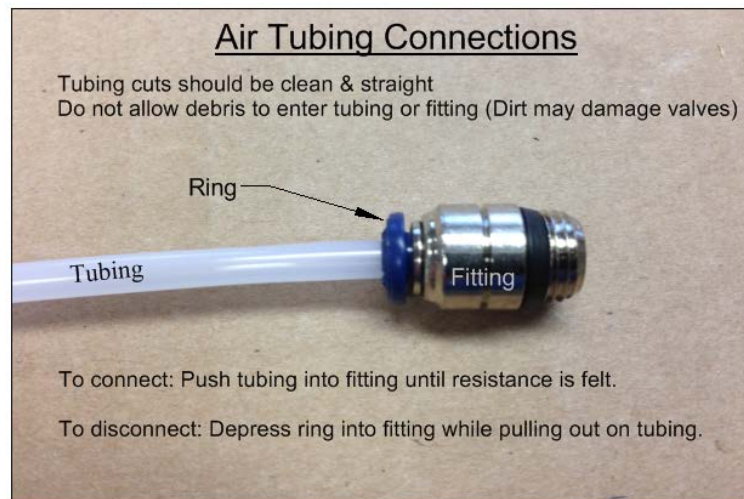

Figure 1
- See Figure 1 below for tubing and fitting connections.